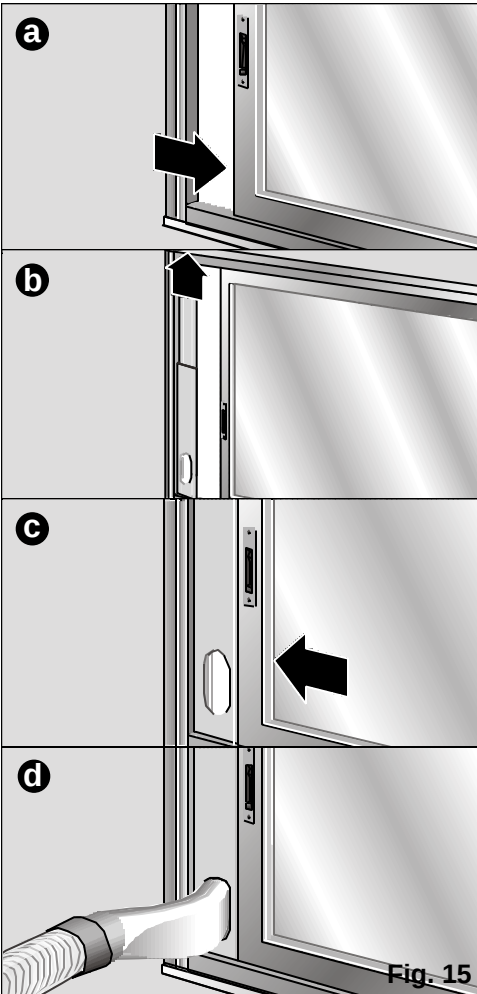

Fig. 15
- The sliding window/balcony installation accessory can also be used (See "Description of accessories"), **Fig. 15: a, b, c, d**. This accessory can be used for both horizontal and vertical windows / balconies.